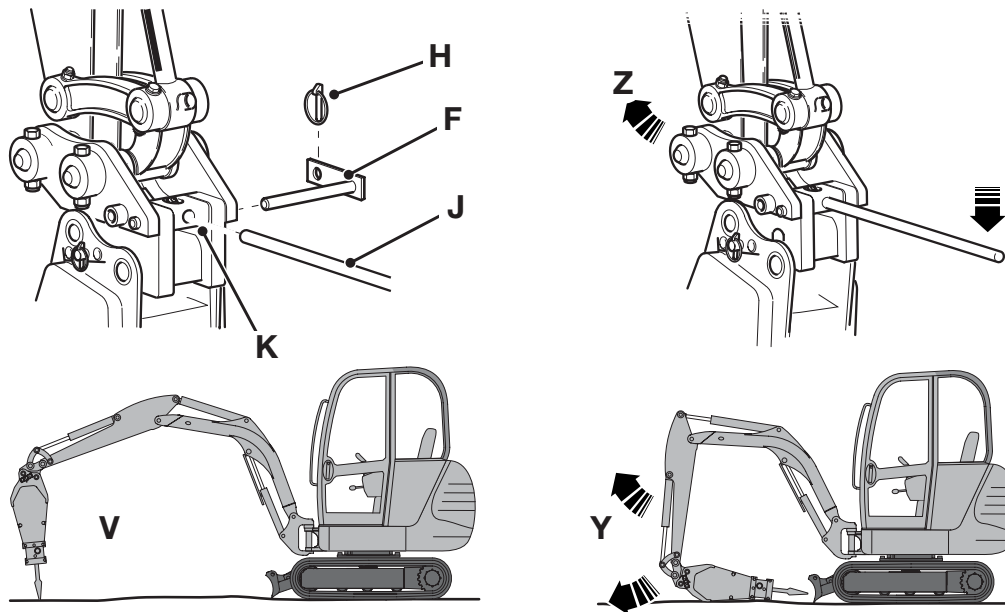

Fig 111.
- 2 Position the breaker just clear of the ground and at an angle such that the breaker does not detach from the front pivot pin when the Quickhitch is unlatched. Typically shown at V. ⇒ Fig 111. \(□ 292\)